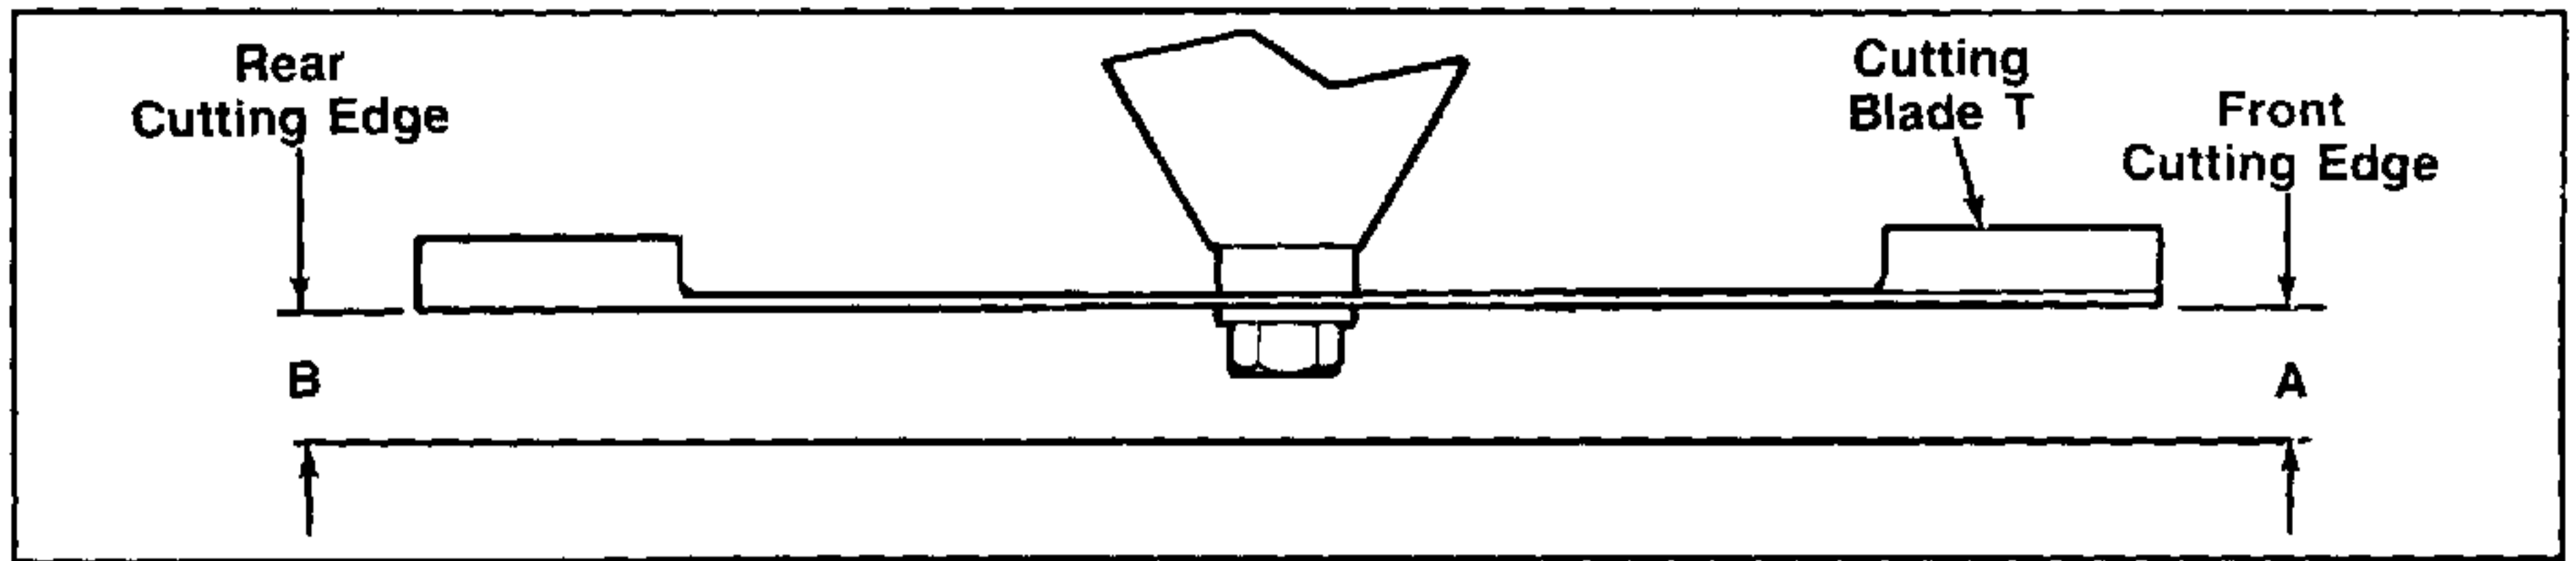

FIGURE 19.
5. Refer to figure 19 and measure and record measurement "A" for each of the outside blades. If measurements "A" of the two outside blades are within 1/16" of each other proceed to step 11. If the two measurements "A" are not within 1/16", proceed to step 6.
- Place the lift handle in position number 6. Refer to figure 19 and measure and record measurement "A" and "B" for each of the outside blades. An individual blade is properly level if its front measurement "A" is equal to its rear measurement "B". Proceed to steps 12, 13 and 14 for each blade that is not level.